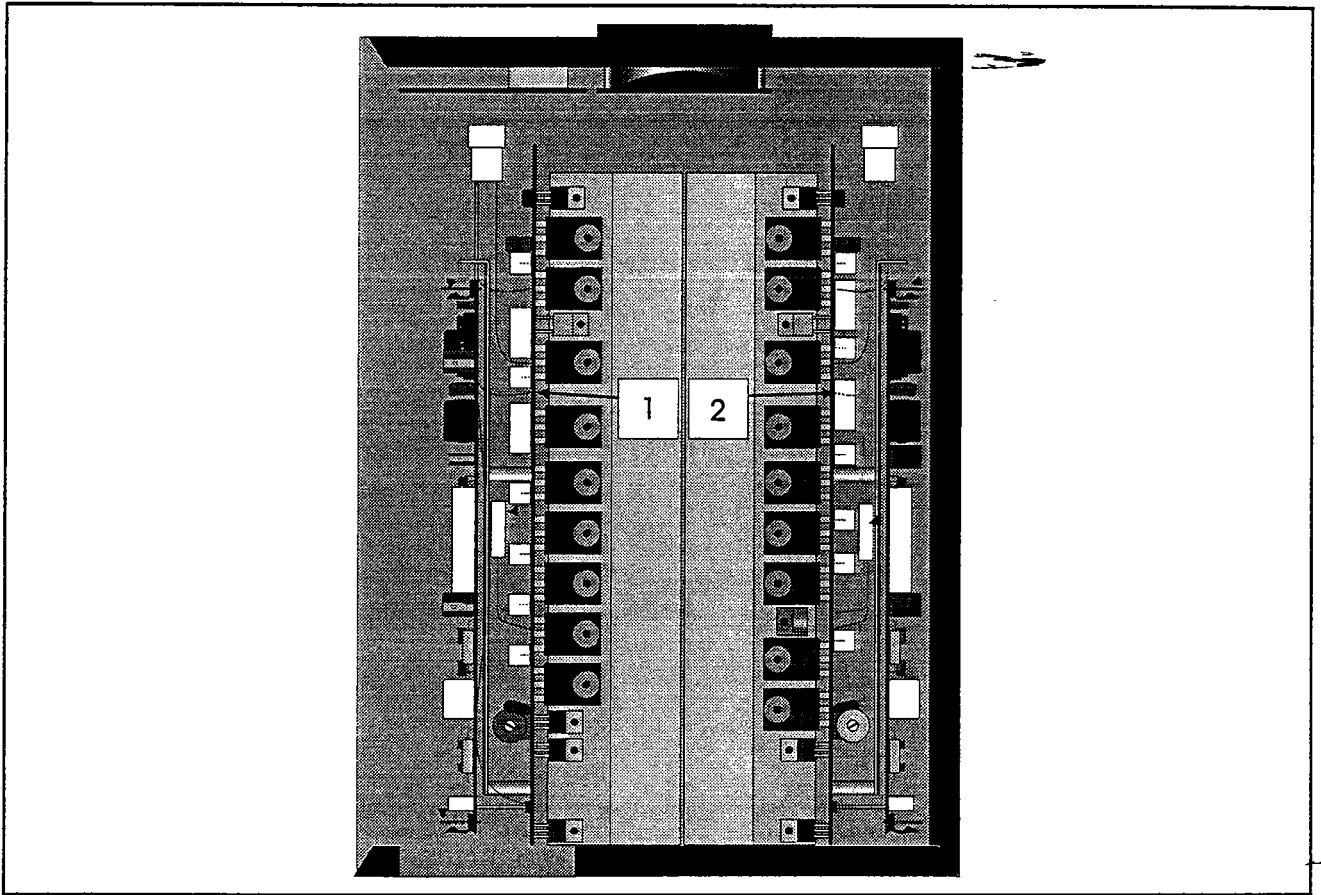

Figure 6-1. DC Voltage Points
- 2 Measure the DC voltage, with respect to the amplifier chassis ground, at points 1 (where the red wire attaches to Channel A's heatsink board) and 2 (where the green wire attaches to Channel B's heatsink board) as shown in Figure 6-1.
- 17 Turn the amplifier on and turn up the Variac to full line voltage. Measure the positive and negative rail voltages (see Figure 6-1, points 1 and 2).